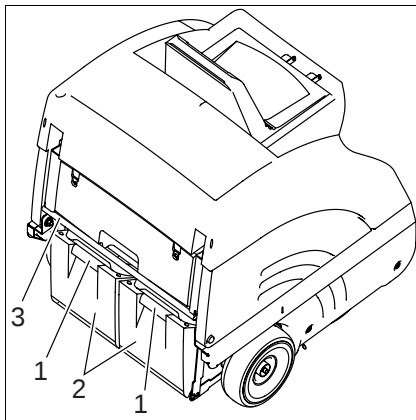

Fig. 11 Emptying dirt hopper
- Fold bow (Fig. 11/3) up and the dirt hoppers (Fig. 11/2) are lowered.
- Use the recessed grip (Fig. 11/1) of one of the hoppers to lift it lightly and extract it.
- Re-insert dirt hopper (Fig. 11/2) and fold down the bow (Fig. 11/3).